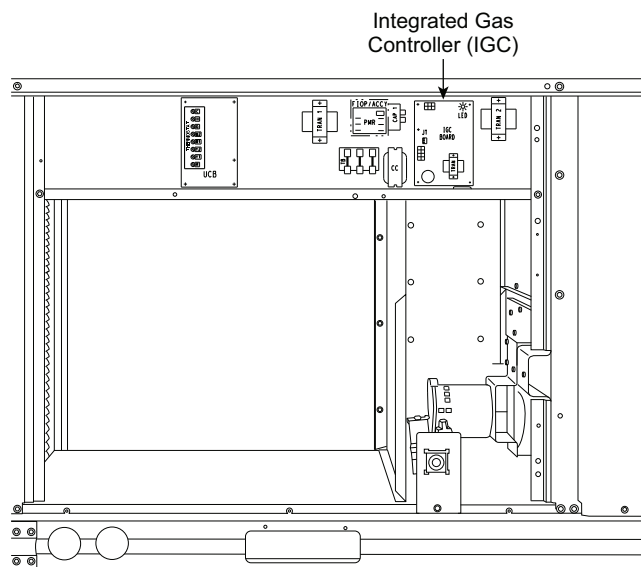
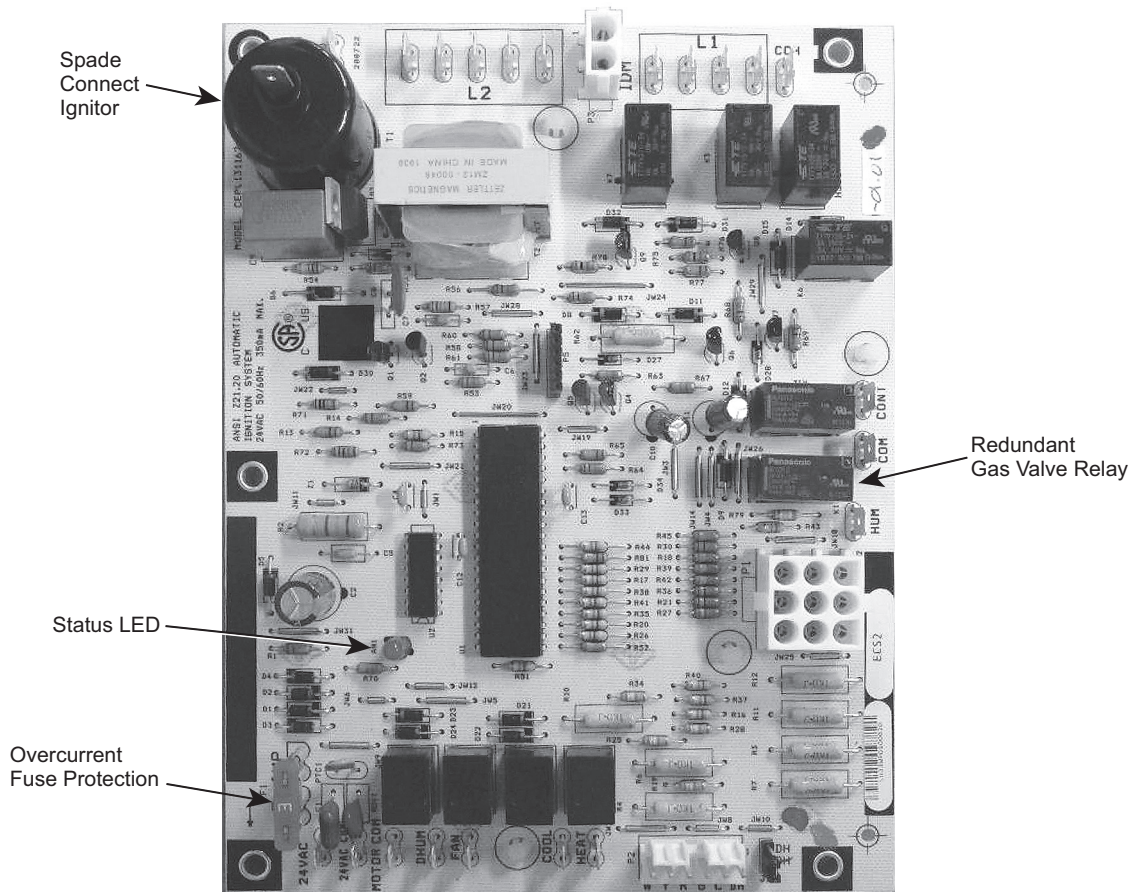

Fig. 49 — Unit Control Box/IGC Location
Fig. 53 — Integrated Gas Control (IGC) Board
8. Remove igniter wires and sensor wires at the Integrated Gas Unit Controller (IGC). (See Fig. 49.)
7. Disconnect the igniter wires and sensor wires at the integrated gas controller (IGC) (see Fig. 49).
Unit is equipped with a direct spark ignition 100% lockout system. The Integrated Gas Unit Controller (IGC) is located in the control box (see Fig. 49). The IGC contains a self-diagnostic LED (light-emitting diode). A single LED (see Fig. 53) on the IGC provides a visual display of operational or sequential problems when the power supply is uninterrupted. When a break in power occurs, the IGC will be reset (resulting in a loss of fault history) and the indoor (evaporator) fan ON/OFF times will be reset. The LED error code can be observed through the viewport. During servicing, refer to the label on the control box cover or Table 10 for an explanation of LED alarm code descriptions.